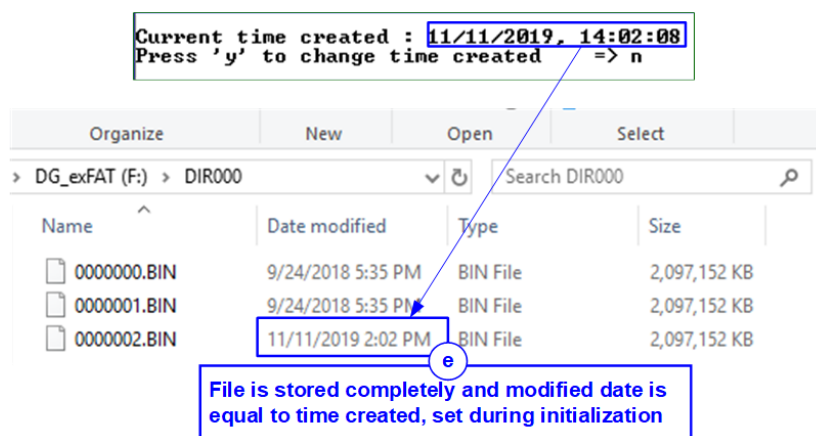

Figure 4-4 Uploaded File in SATA device
- e. As shown in Figure 4-4, when directly connecting SATA device which is FTP server storage to the PC, the new file shows modified date similar to time created of the demo.